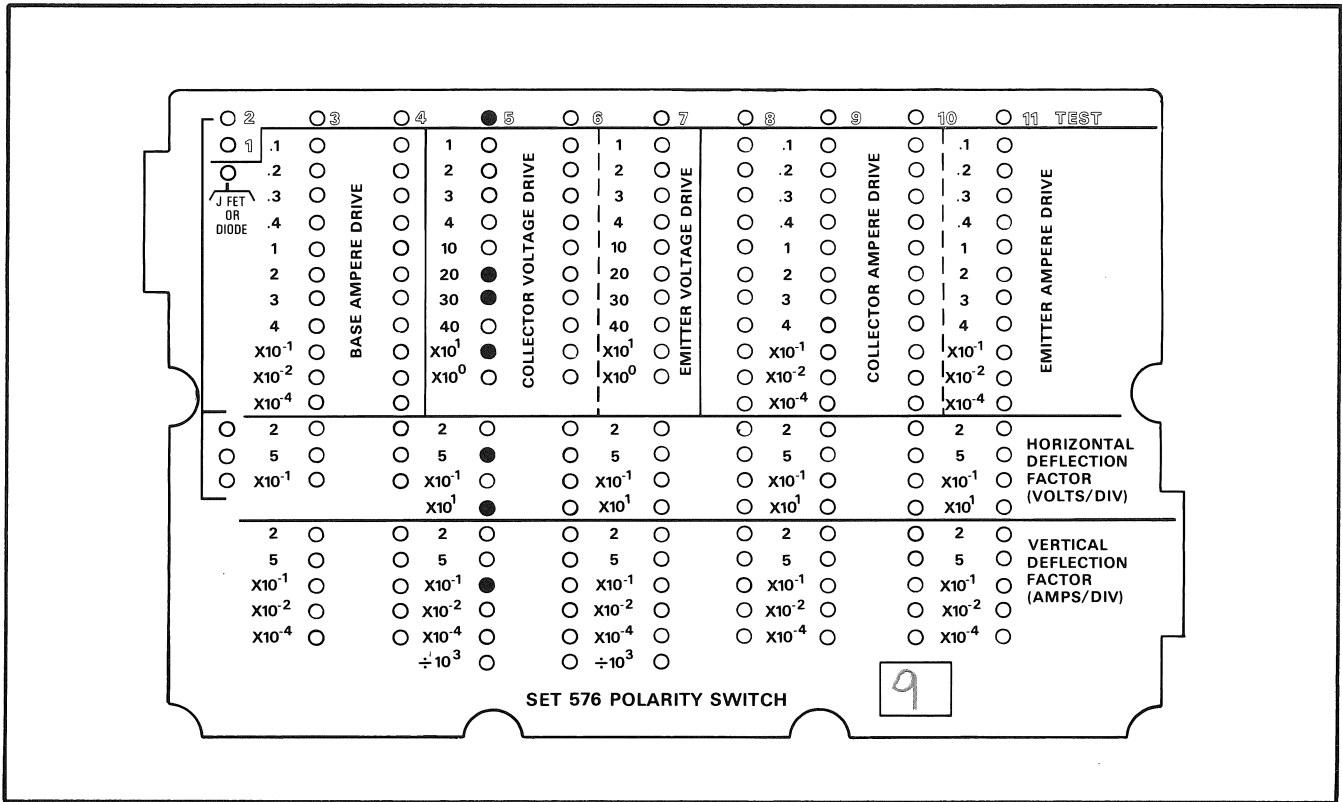

Fig. 5-9. Program 9.
f. Using the procedure of steps d and e, check tests 6 and 7 of program 8, and test 5 of program 9 (Fig. 5-9).